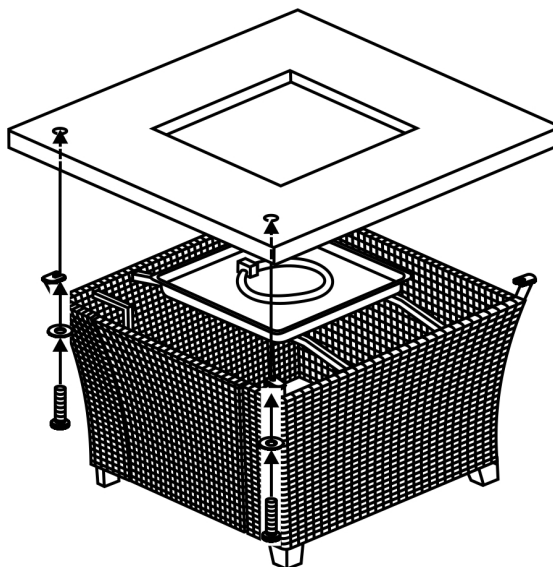

Figure 3
2. Place the tabletop on the base. Secure the tabletop to the firepit base using the bolts and washers that are provided. See Figure 3